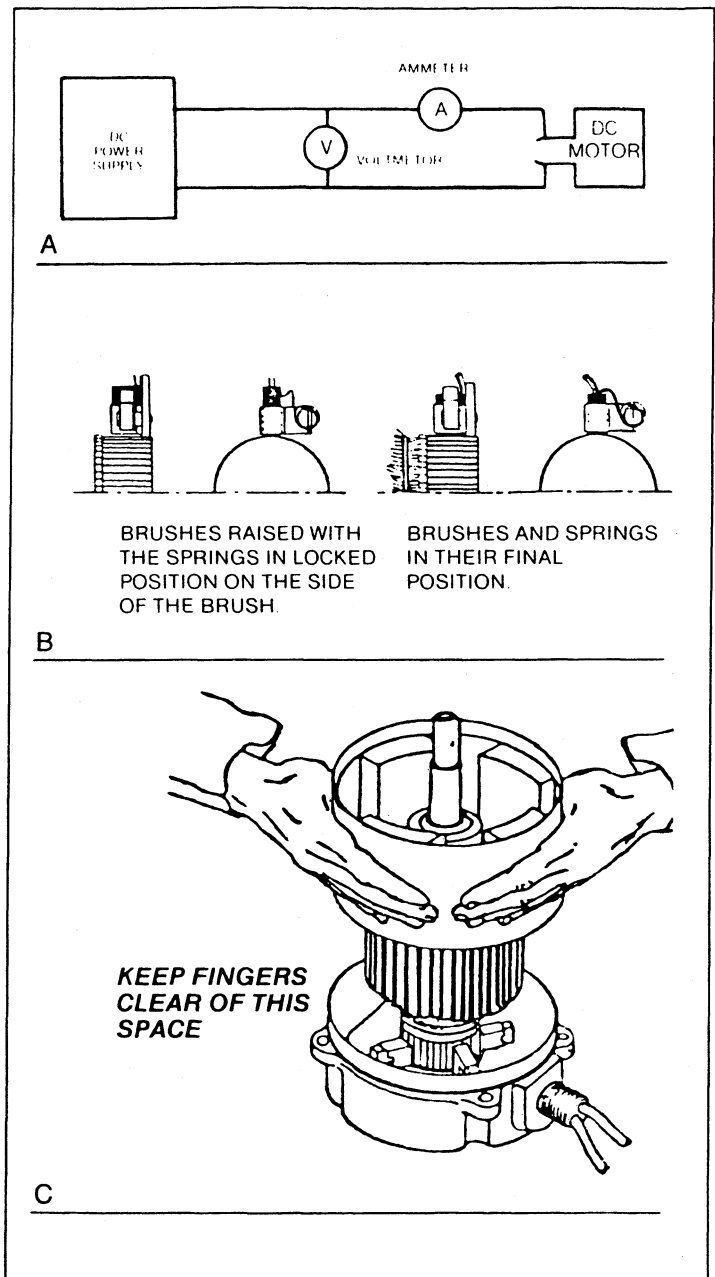

Figure 5-16. Electric Motor Service
5-24. ELECTRIC MOTOR SERVICE (Figure 5-16). The permanent magnet motor differs from conventional D.C. motors in that the field winding has been replaced with ceramic magnet pole pieces. **Do not impact, drop, or squeeze the motors as this can cause damage to the ceramic pole pieces and will affect warranty considerations.** Care must be taken when the permanent magnet motor is disassembled, since the magnet pole pieces will attract ferrous metals. This fact dictates motors should be disassembled in an area free of ferrous metal chips.
- (1) Read the nameplate to become familiar with the motor, especially the rated voltage.
- (2) Try to turn the shaft by hand. Keep motor leads separated while doing this. If the shaft turns freely go to item (3). If the shaft won't turn, proceed to item (2A).
- (2A) The shaft could be tight for a number of reasons. This check is to determine if the tightness is of a temporary nature only. Obtain a power to produce the nameplate voltage. **Do Not Make A Permanent Connection.** First touch the motor leads quickly to the power supply just long enough to observe if the shaft turns. If it does turn, then hold the motor leads on the power supply for a longer time. If the motor sounds normal, go to item (3). If the motor sounds noisy, it should be taken apart as described in this bulletin.
- (3) If the motor turned freely, connect an ammeter in the circuit as shown in Figure 5-16 A. With rated voltage applied and the shaft running free, the ammeter should read less than 20% of the nameplate full load current. If the motor meets the above conditions then it can be assumed the original problem is external to the motor.
- (1) Install new brushes and be sure they are free in the holder. Install brush with the lead wires positioned as when received. Raise all brushes to the locked position. (See Figure 5-16 B and (3) in the Trouble Shooting segment).
- (2) Place commutator cover on a work bench with brush assembly facing upward.
- (3) Place the bearing spring into the bearing bore.
- (4) Take a complete armature assembly, including bearings, and insert commutator end bearing into the bearing bore.
- (5) Set the brushes to final position as shown in Figure 5-16 B.
- (6) The next step is place the complete stator down over the vertical armature, and into position on the commutator cover.
Care must be exercised at this point. There is a strong magnetic attraction between the stator assembly and the armature, which tends to pull the stator assembly rapidly downward. It is important to have a firm grasp of the stator assembly and be sure fingers are free from the space between stator assembly and commutator cover (see Figure 5-16 C).